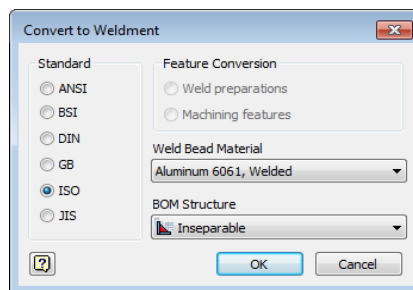

Figure 16-27 The Convert to Weldment dialog box
2. Choose **Yes** in the warning box; the **Convert to Weldment** dialog box is displayed, as shown in Figure 16-27.